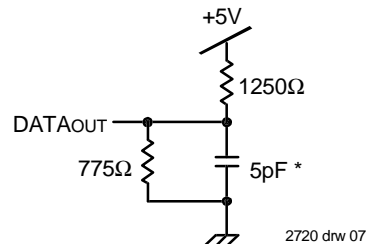

Figure 2. Output Test Load
1. Transition is measured $\pm 500\text{mV}$ from Low or High-impedance voltage with the Output Test Load (Figure 2).
- Transition is measured $\pm 500\text{mV}$ from Low or High-impedance voltage with Output Test Load (Figure 2).